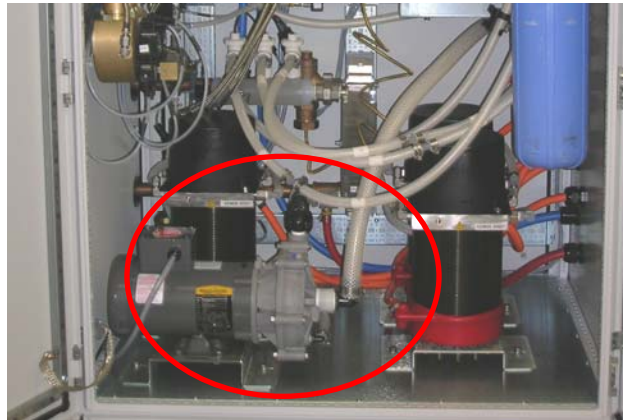

Figure 12 Pump Location
1. Power on the unit by turning the main power disconnect switch to the ON (I) position.
3. Shut down the unit by turning the main power disconnect to the OFF (O) position.
7. Open the fluids side of the cabinet and locate the pump. (Refer to Figure 12.)